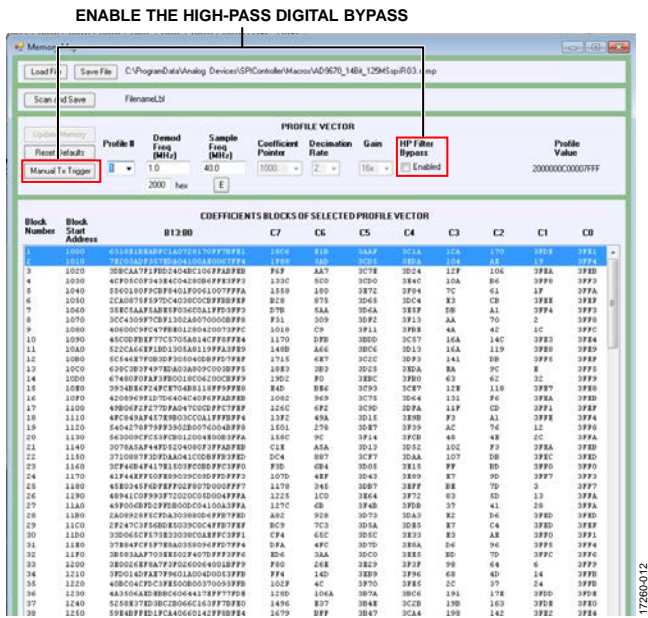

Figure 12. Disabling the Digital High-Pass Filter Bypass in the Memory Map Window
- To disable the digital high-pass filter, select the **HP Filter Bypass** checkbox in the **Memory Map** window (see Figure 12) and then click the **Manual Tx Trigger** button (see Figure 12).